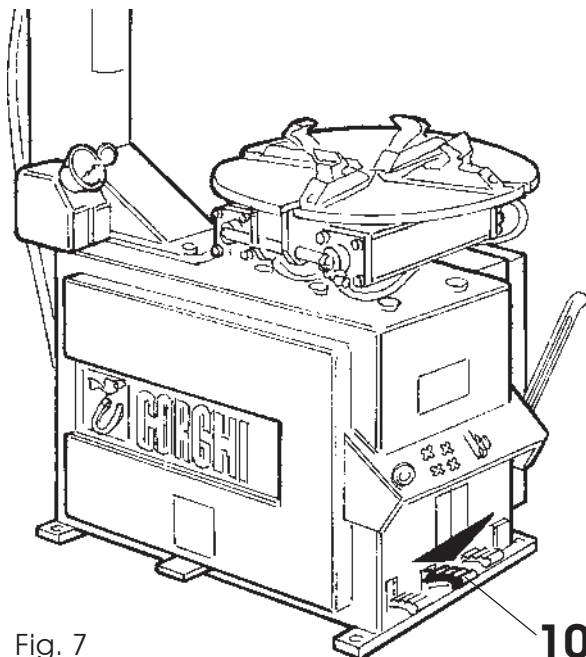

Fig. 7
Before making the electrical and pneumatic hook-ups check to make sure that the machine configuration is as illustrated in Figure 7, with pedal (10) in the "fully depressed" position.